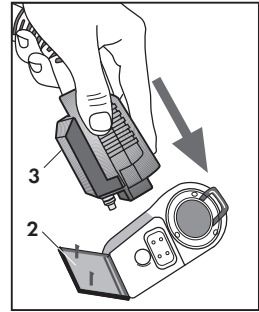

Fig. 20
IRON (Fig. 20 - 21 - 22)
To use the iron, install the iron connection (3) to the accessory socket (Fig. 20). Follow the same procedure used for attaching the hose. Refer to "Fitting the hose" on page 9 (Fig. 10).